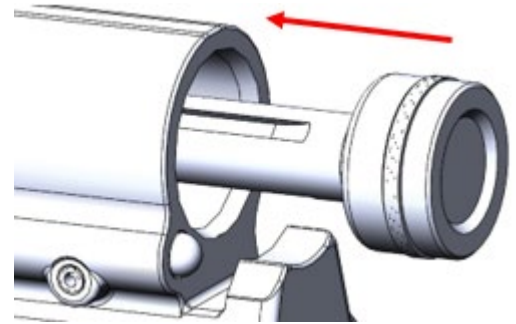

Figure 55: Installing the Gas Piston
1. Install the piston into the gas block, pressing it to the rearmost position. (Figure 55)